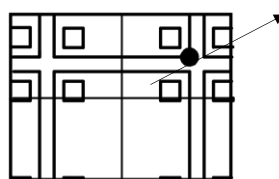

Fig 2
- ⑥ Tighten gently the aligning screw (1) so that the black circle comes on the line passing through the aligning screw (2) and the center. (See Fig.2.)